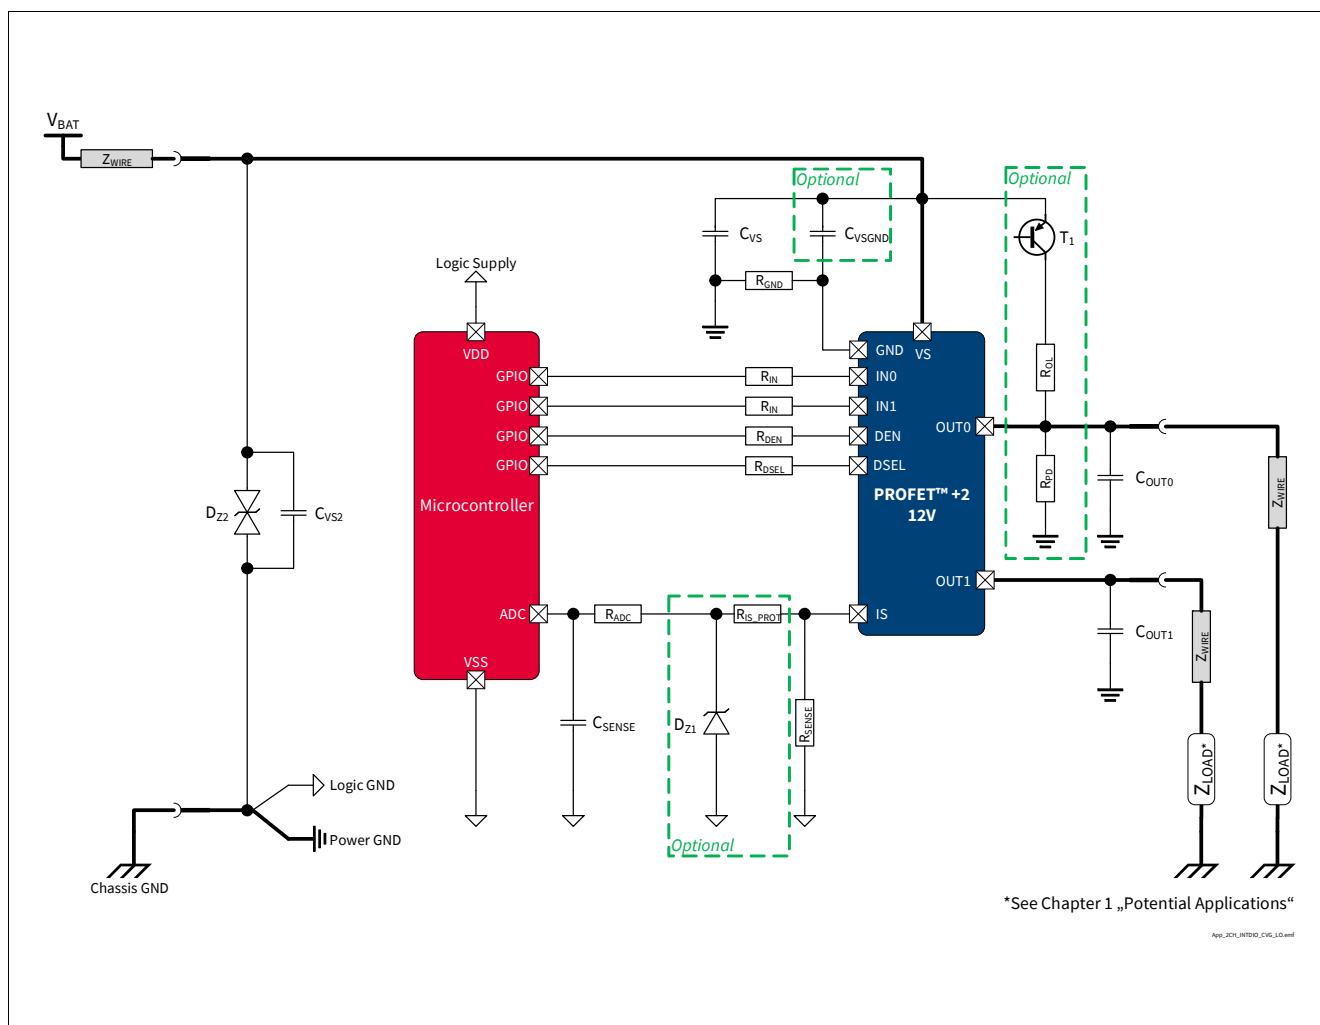

Figure 43 BTS7008-2EPA Application Diagram
1.14 , 2019-10-15	Chapter 8.2 updated P_8.7.1.1, P_8.7.1.7, P_8.7.1.8 updated (added in Note or Test Condition: link to Figure 25) P_7.5.1.4, P_7.5.1.5 updated (added in Note or Test Condition: DEN = “low”) P_7.5.1.12 updated (deleted unnecessary space in Symbol: dV_{OUT} / dt → dV_{OUT} / dt) P_9.7.1.6 updated (Min./Typ./Max: -50%/5500/+50% → -35.0%/5400/+35.0%) P_9.7.1.9 updated (Min/Typ./Max: -42%/5500/+42% → -30.0%/ 5400/+30.0%) P_9.7.1.12 updated (Min./Typ./Max.: -40%/5500/+40% → -29.5%/5400/+29.5%) P_9.7.1.15 updated (Min./Typ./Max.: -25%/5500/+25% → -13.5%/5400/+13.5%) P_9.7.1.18 updated (Min./Typ./Max.: -8%/5500/+8% → -5.8%/5400/+5.8%) P_9.7.1.20 updated (Min./Typ./Max.: -6%/5500/+6% → -4.0%/ 5450/+4.0%) P_9.7.1.22 updated (Min./Typ./Max.: -5%/5500/+5% → -3.9%/5450/+3.9%) Figure 1, Figure 43 updated Chapter 1 updated (or LED equivalent → or equivalent electronic loads (e.g. LED modules)) P_4.3.0.7 added Table 24 updated Chapter 5.1 updated (added: see Chapter 10 for the complete application setup overview)